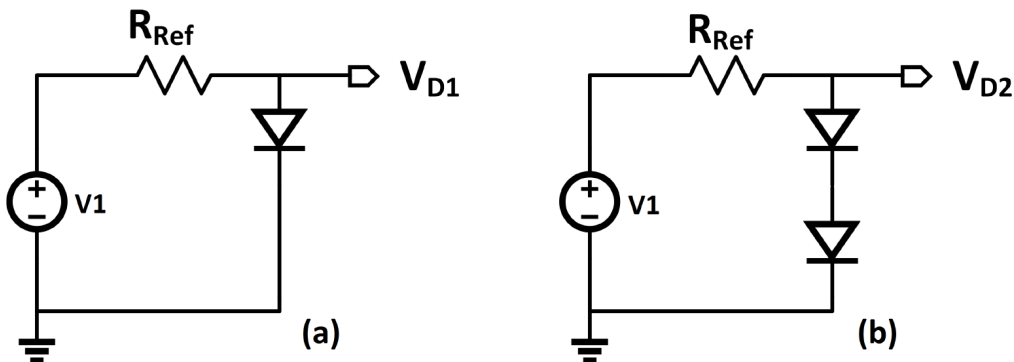

Figure 3: Left, one diode as a reference. Right two diodes as a reference.
3. Draw the circuits shown in Fig. 3 in LTspice. Let $V_1 = 4 + 0.5 \sin(2\pi \cdot 100t)\text{V}$ and $R_{ref} = 1\text{k}\Omega$. Make sure to use the 1N914 diodes as before. Perform a **transient** simulation on the circuits with the following parameters: